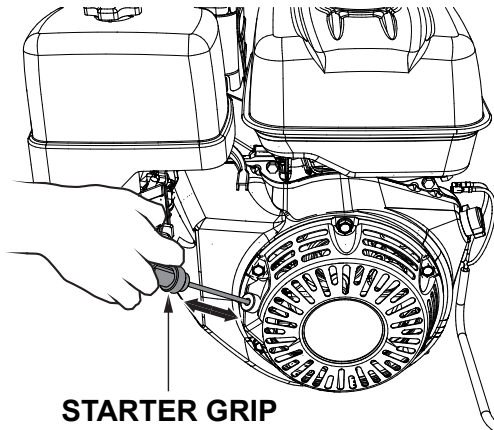

Figure 26. Starter Grip
5. Slowly pull the recoil starter grip (Figure 26) until resistance is felt, then pull briskly and smoothly to start the engine. Gently return the starter grip to its original position.